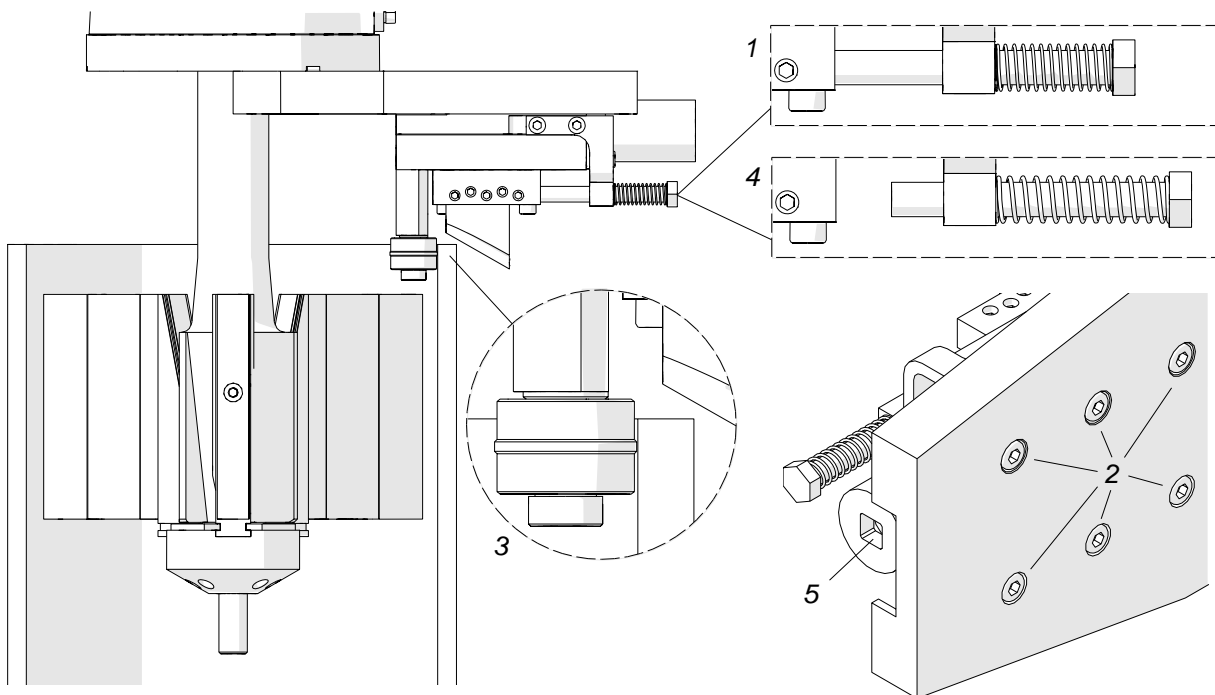

Fig. 13. Proper positioning of the oval attachment
After the machine with the attachment is clamped inside the pipe, tighten the bumper screw to immobilize the tool bit holder (1, Fig. 13). Use the 6 mm hex wrench to loosen the guide screws (2). Place the attachment so that the roller is in contact with the pipe at the lowest inner diameter (3). Then, tighten the guide screws (2), unscrew the bumper screw (4), and use the 1/2" ratchet wrench to initially tighten the spring (5).